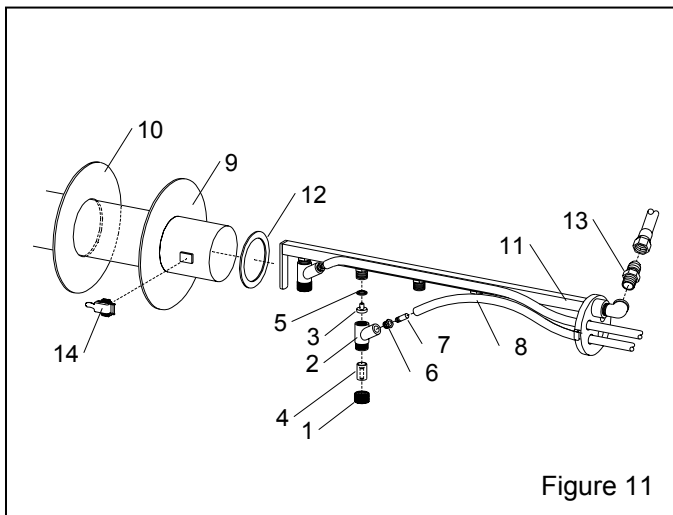

Figure 11
9.4 Gun and Rack Assembly, Figure 11